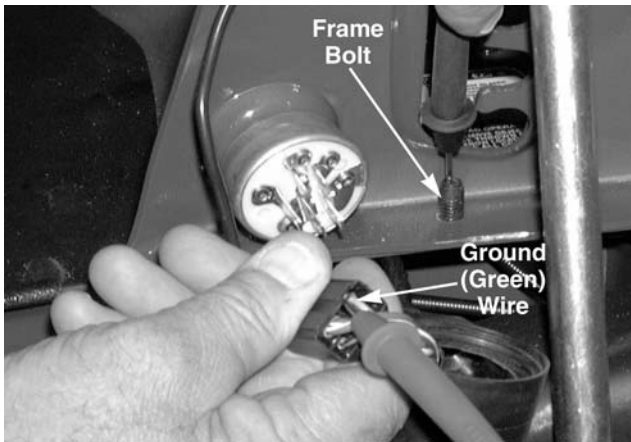

Figure 8-85.
–There will be **CONTINUITY**. See Figure 8-85.